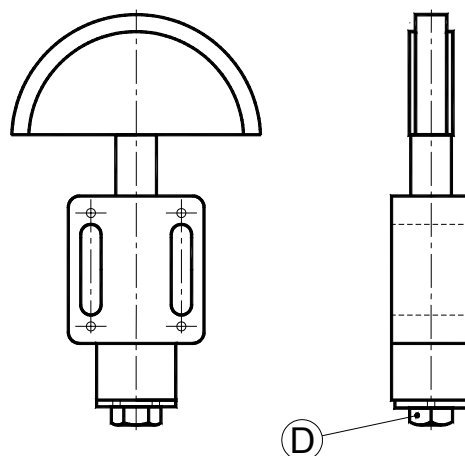

fig 3
**Grandezza TBP 50-60-70-80-90 (Fig.3):**
**Size TBP 50-60-70-80-90 (Figure 3):**
*Tighten the M8 or M12 screw (D) positioned on the bottom of the cap. The column will reenter compressing the spring. After you have positioned the tightener on the plant, fixing it in the right position as we described previously, unscrew the preloading screw until it takes it out completely. The column will come outside and the tensioner will start to work.*